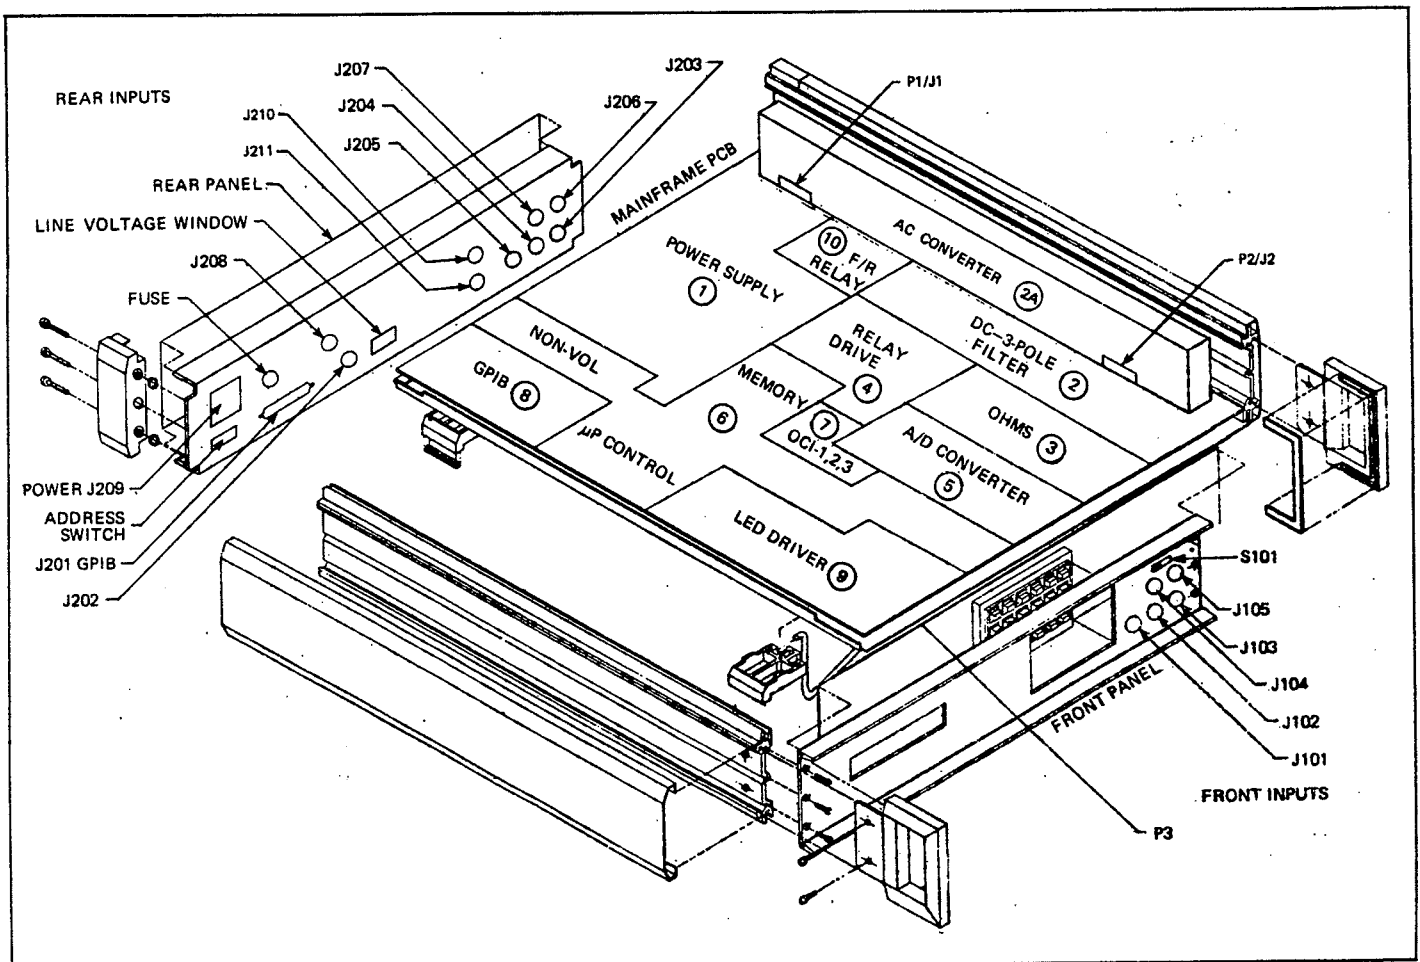
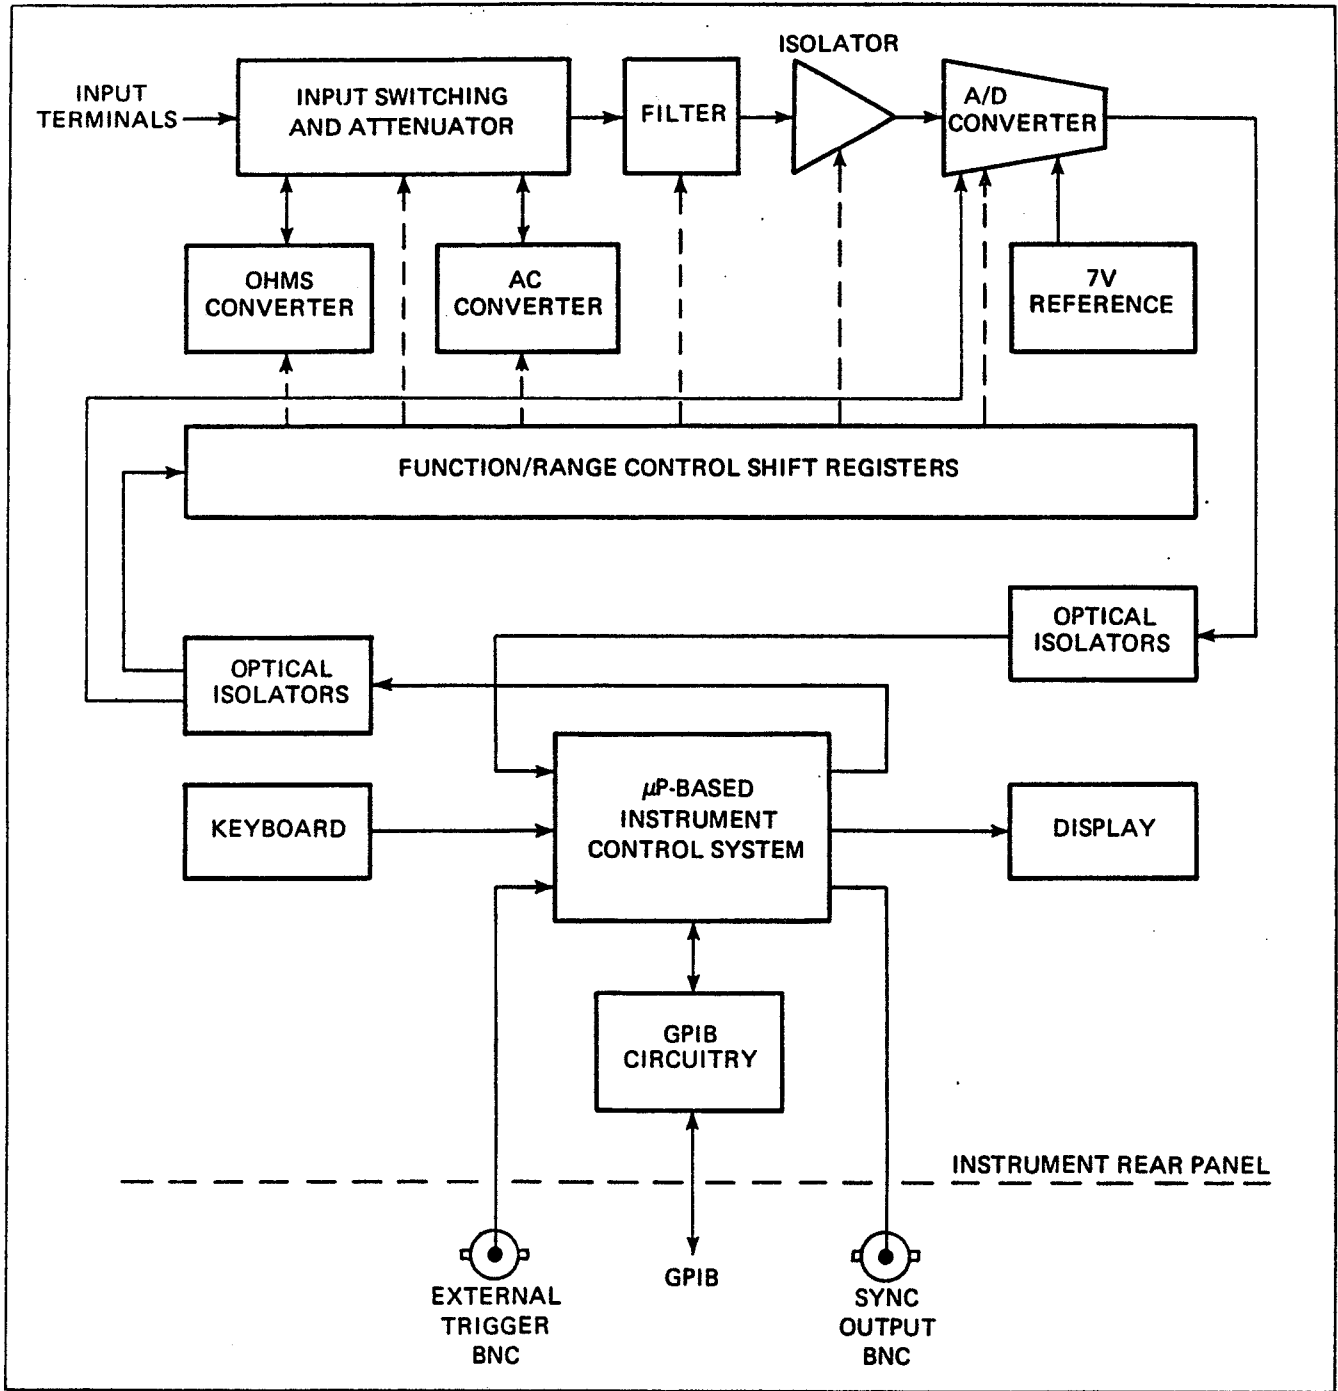

Figure 4.1 - DMM Sectional Drawing
Figure 4.1A - DMM Block Diagram
4.1.2 The physical configuration drawing illustrated in Figure 4.1 is an exploded chassis view which displays the DMM main sections comprising the main PCB. The numbers identified with each section are the discussion sequence followed in the text. The DMM block diagram is presented on Figure 4.1A.
4.3.1.1 The Analog section of the DMM is positioned in the Guard area of the PCB assembly. This includes Section 2, 3, 4 and 5 of the board as shown in Figure 4.1, an exploded view of the DMM.
4.3.6.1 The Model 5005 DMM features an averaging AC to DC converter that is assembled in a separate PCB located in section 2A of the DMM Sectional drawing Fig. 4.1, and plugs into connectors J1 and J2 on the motherboard. The AC converter is configured with a Scaling Amplifier Q1-Q8; Active Rectifier section CR3 and CR4; and a ripple filter network. The converter output amplifier employs U1 op-amp to generate  $-1\text{VDC}$  full scale.
4.3.7.1 The Model 5006 DMM features an RMS AC to DC converter that is assembled on a separate PCB and located in section 1A of the DMM Section drawing Figure 4.1. The PCB plugs into connectors J1 and J2 on the motherboard. The RMS converter is configured with a Scaling Amplifier - Q3, AR1, range switching and input clamp networks; active DC Rectifier-Amplifier Q4 through Q9, CR1 and CR2; Logarithmic (log) Amplifier - Q10 through Q14; RMS Output Amplifier Circuitry - AR2, DC attenuator, and a ripple filter.